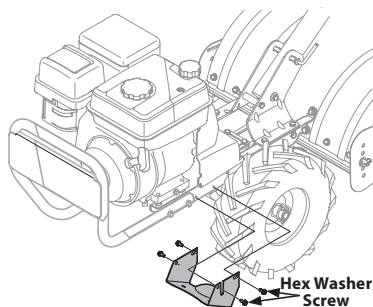

Figure 18
- Remove the four 1/4-20 hex washer screws that secure the pulley shield to the frame as seen in Figure 18, and remove the pulley shield and set aside in a safe location until reinstallation.